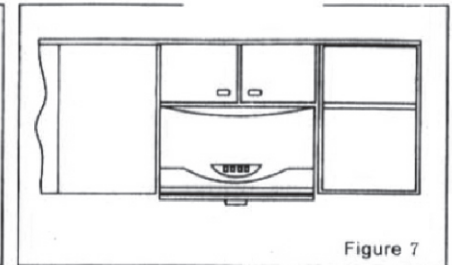

Figure 7
8. Proper space (usually about 10mm) should be left on both sides of the organism when making the cabinet. The boards that cover the organism should be turnable so as to be convenient for maintenance and repair (shown in figure 7)